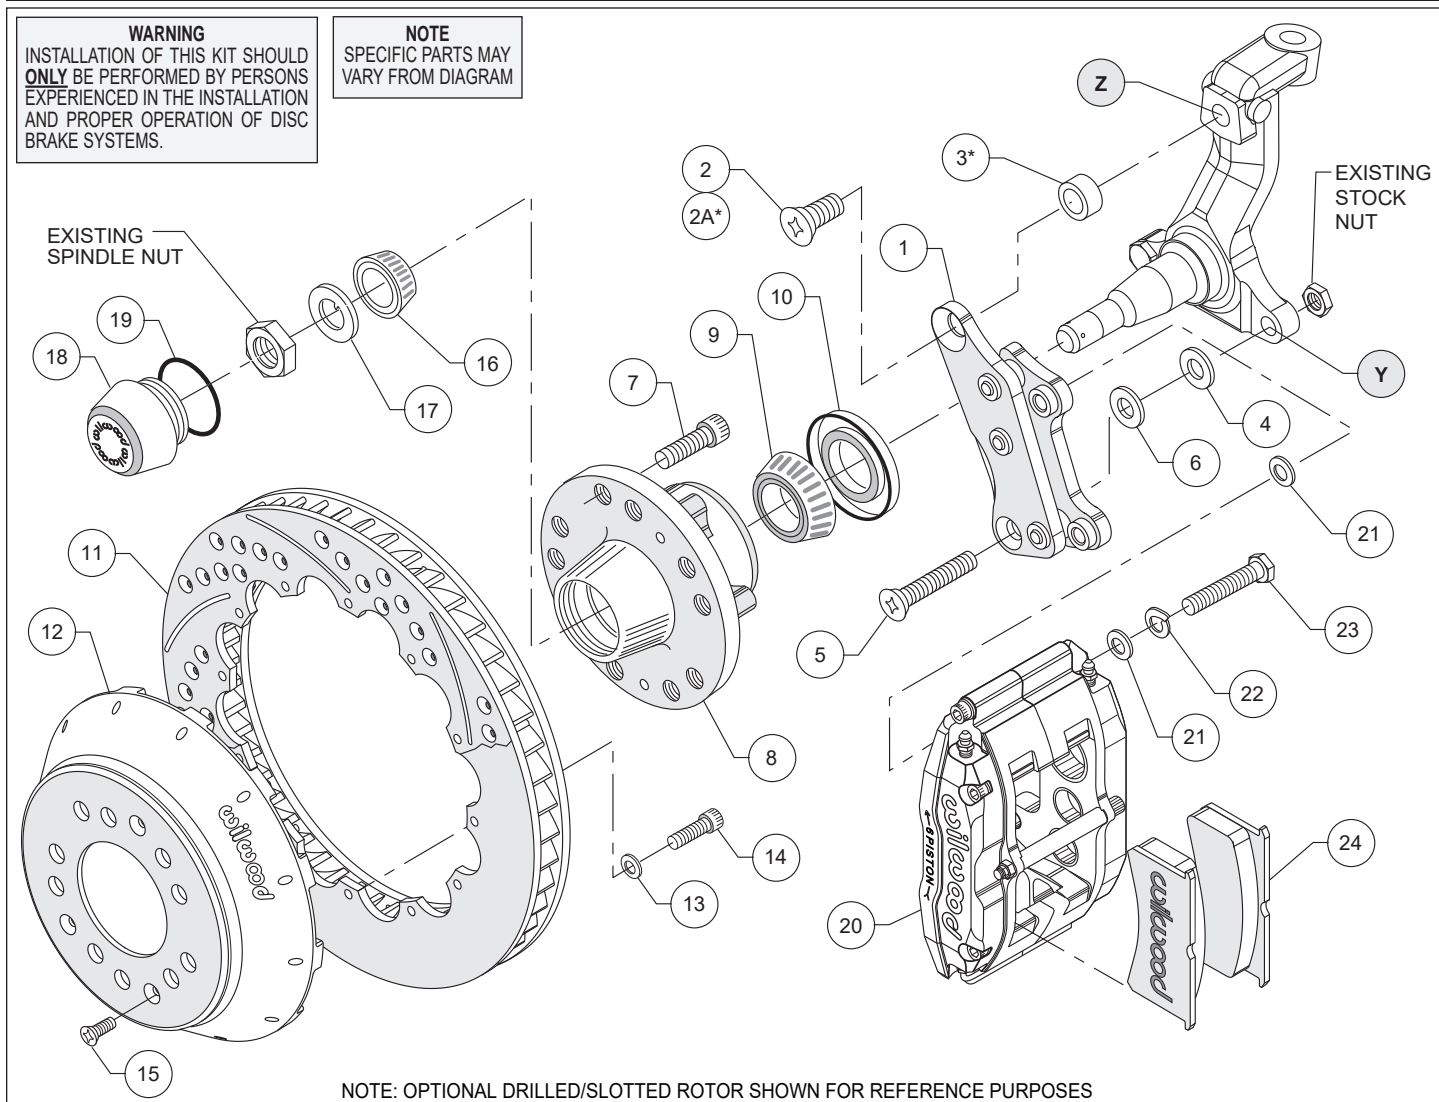
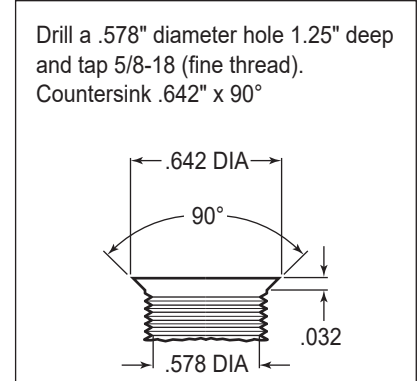

Figure 1. Typical Installation Configuration
Figure 3. Drill and Tap Detail
•**NOTE:** 1964-66 spindles may require the following modifications (reference Figure 1 and Figure 3): Top anchor pin hole (Z) must be drilled and tapped to the dimensions as outlined in Figure 3. Bottom rear steering arm bolt hole (Y) in the spindle and steering arm must be enlarged to .50" by drilling. A 1/2-20 backing nut (not supplied in kit) will need to be acquired to torque bracket / steering arm bolt (supplied in kit)
•**Disc Application:** Apply red *Loctite*® 271 to bolt threads (2A) before assembly of the caliper mounting bracket (1). Mount bracket (1) to face of dust plate mount pad of spindle using the bottom bolt (5) while positioning washer (6) and shim washer (4) "if needed for bracket flatness" between bracket and spindle face, finger tighten only. Install the upper bolt (2A) with spacer (3), ensuring flatness positioned between bracket and top hole of spindle face, torque to 120 ft-lb. Torque bolts (5) to 77 ft-lb. **NOTE:** Be sure the heads of the bracket (1) insert nuts are facing outward toward the wheel.
•**Drum Application:** Apply red *Loctite*® 271 to bolt threads (2) before assembly of the caliper mounting bracket (1). Mount bracket (1) to face of dust plate mount pad of spindle using the bottom bolt (5) while positioning washer (6) between bracket and spindle face, finger tighten only. Install the upper bolt (2), torque to 120 ft-lb. Torque bolts (5) to 77 ft-lb. **NOTE:** Be sure the heads of the bracket (1) insert nuts are facing outward toward the wheel.
•Install wheel studs (7) into the hub (8). Torque to 77 ft-lb. **NOTE:** There are two five lug patterns in the hub (5 x 4.50 and 5 x 4.75). Make sure of the correct hole pattern for the correct wheel application before installing studs into hub.
•Pack the large inner bearing cone (9) with high temperature disc brake bearing grease (available from your local auto parts store) and install into the backside of the hub (8).
•Install the grease seal (10) by pressing into the backside of the hub (8).